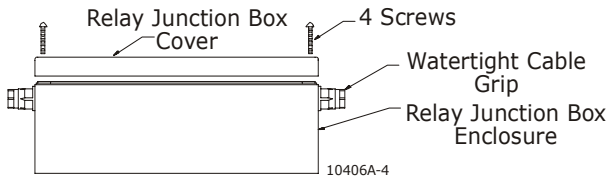

Figure 18: Relay Junction Box Parts
- A) Remove the Relay Junction Box cover. (refer to Figure 18:)
B) Remove the Relay Junction Box cover. (see “Figure 18:” on page 18)
- A) Remove the Relay Junction Box cover. (Refer to “Figure 18:” on page 18)